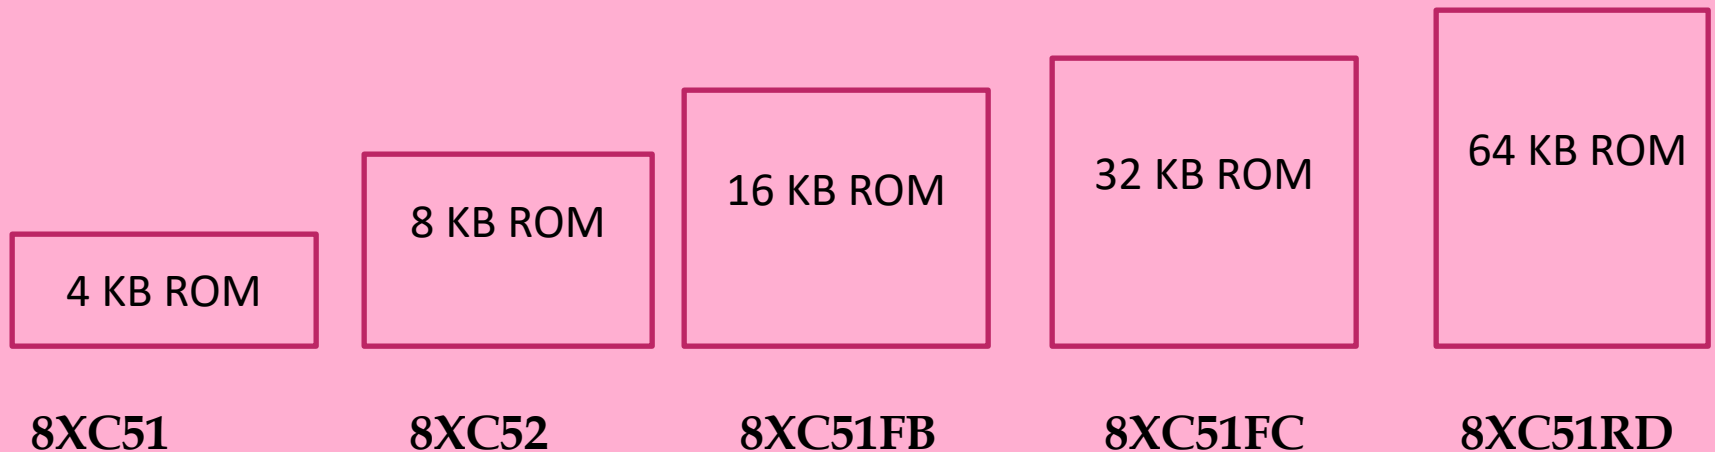

Fig 1 : Microcontroller in Intel MCS-51 Series
- ❖ Fig 1: shows various microcontrollers in MCS51 series. with their differences.